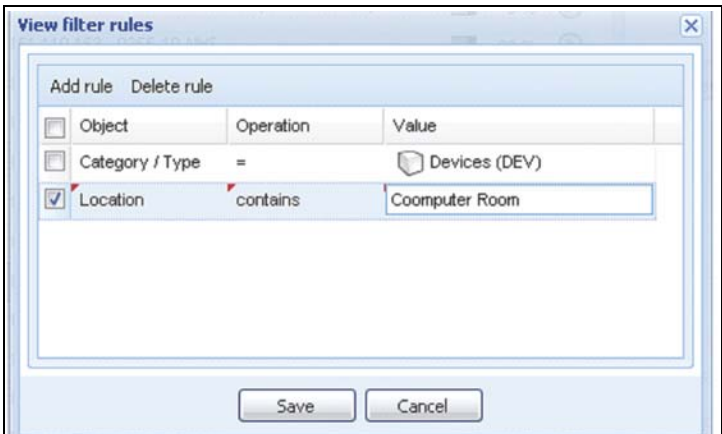

Figure 68. View Filter Rules Dialog Box
3. Click **Edit a Filter View**. The View Filter Rules dialog box displays (see Figure 68).
With the setup shown in Figure 68, this filtered view allows you to view the devices whose location field contains the value “Computer Room.”